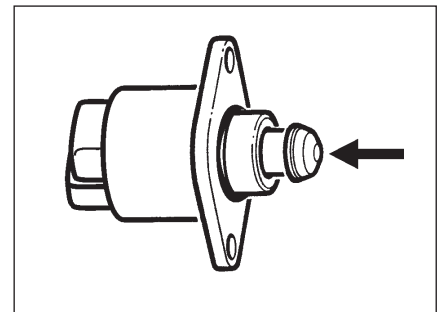

Fig. 3 Stepp motor
Note: The adjusting cone (arrow), Fig. 3 of the stepp motor must not be removed from the housing or threaded rod due to a risk of damage.
- Apply light axial pressure to the end of the adjusting cone with the thumb (arrow), Fig. 3 and subsequently switch off the ignition.